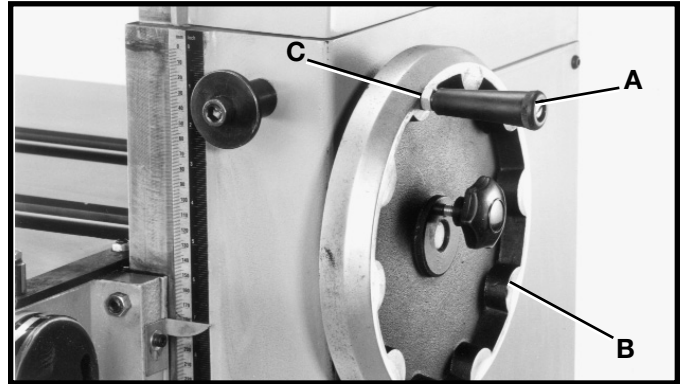

Fig. 3
Thread handle assembly (A) Fig. 3, into handwheel (B) and tighten locknut (C).